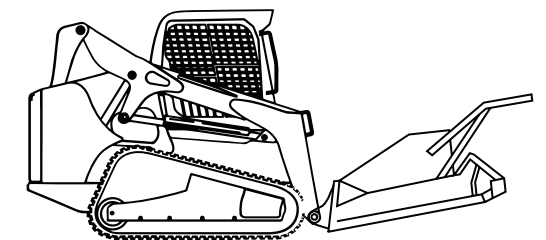

Figure 4.2b Coupler to Bracket
3. Slightly tilt the skid steer quick attach coupler up until the coupler and attachment bracket fully engage. See figure 4.2b.